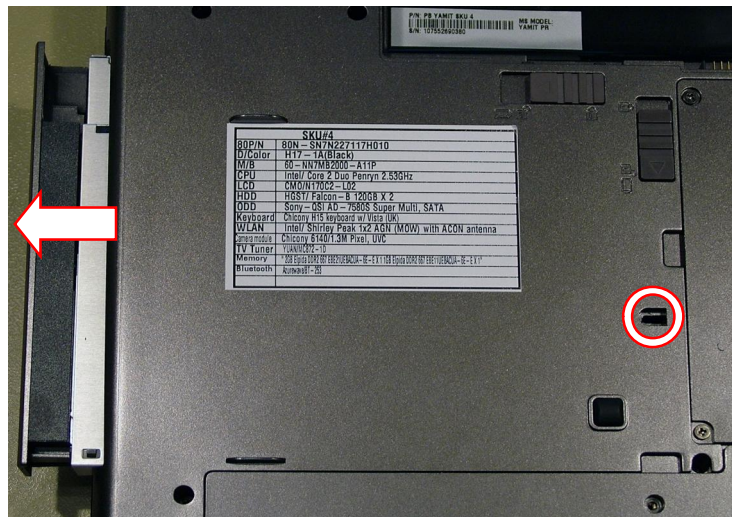

Fig. 8 Location screw securing optical disk drive.
3. Pull the tray and take out the optical disk drive from the drive bay (see Fig. 8 on page 8).